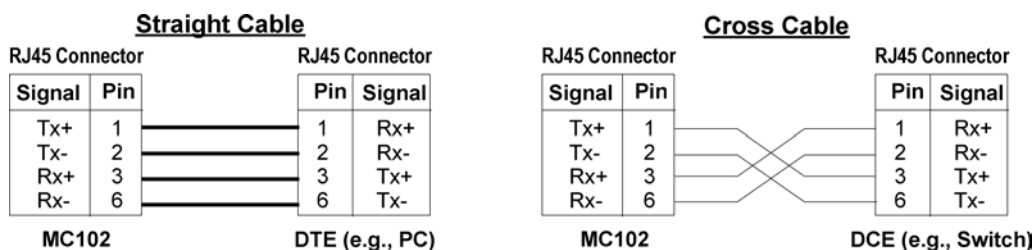

Figure 35: Cable Wiring
**Wiring:** The wiring of a *straight-* and *cross-wired* cable are shown in Figure 35.